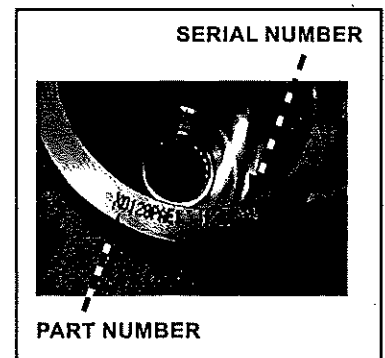

Figure 2 – Style 2
**Style 2:** This style will also have the serial number and part number engraved on one line with a space between the part number and serial number. The only difference is the amount of machined surface given for the engraving. The numbers should be engraved on more of a curve due to the lack of space provided. See *Figure 2*.